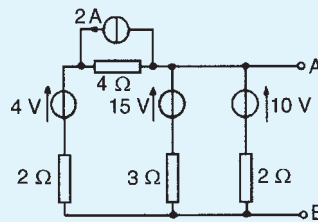

Figure 13.79
- Determine, by successive conversions between Thévenin and Norton equivalent networks, a Thévenin equivalent circuit for terminals AB of Fig. 13.79. Hence determine the current flowing in a 6Ω resistor connected between A and B.